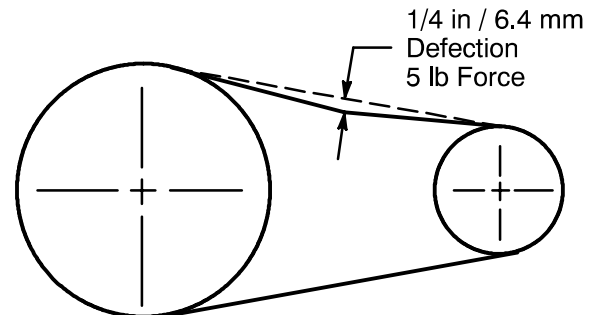
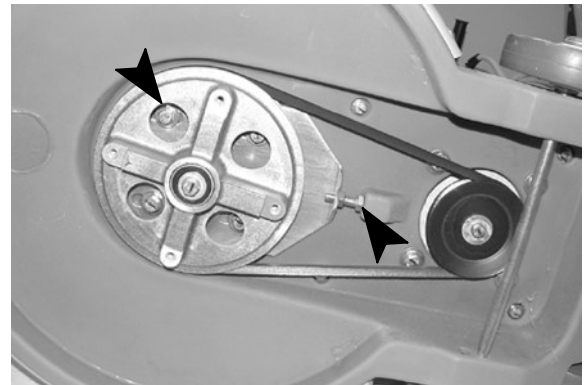

FIG. 7
FIG. 8
7. Once a month, check the tension of the drive belt. At mid-point of belt, the belt tension should have a 1/4 in / 6.4 mm deflection at 5 lb of force (Figure 7). To tighten belt, remove the pad driver and loosen the (4) pad driver pulley bracket hex head screws. Loosen the jam nut on the tension bolt and turn bolt clockwise until belt is properly adjusted, then retighten the pulley bracket screws and jam nut (Figure 8).